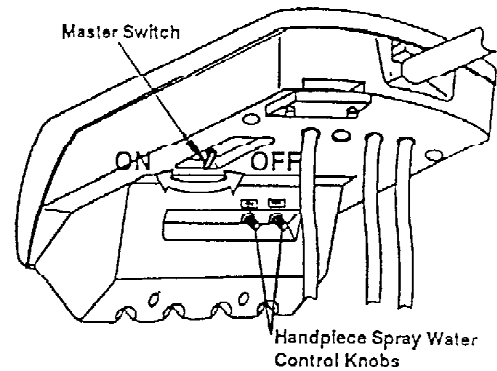

Fig. 3-1 Master Switch and Handpiece Spray Water Control Knobs
(1) Handpiece Spray Water Flow Control Knobs (Fig.3-1)